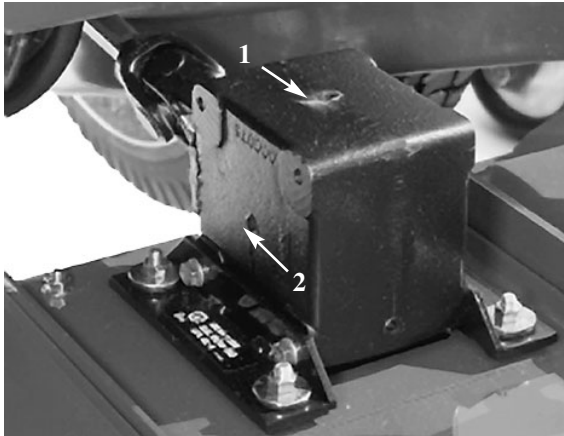

Figure 6
2. Remove the check plug from the side of the gear box and make sure lubricant is up to bottom of the hole (Fig. 6). If the level of lubricant is low, remove the fill plug on top of the gear case and add enough lubricant to bring it up to bottom of the hole in the side.